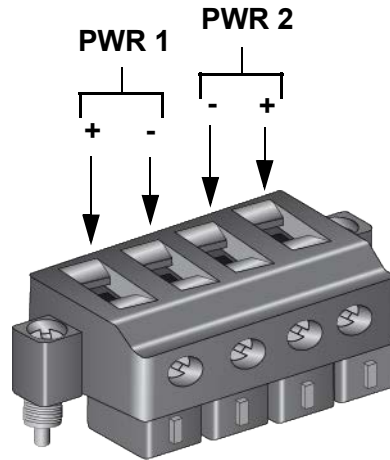

Figure 66. Loosening the Wire Retaining Screws on the POWER Plug
5. Use a #2 screwdriver to loosen the wire retaining screws of the PWR 1 and PWR 2 pins. If you are powering the switch with only one DC power supply, you may use either the PWR 1 or PWR 2 pins. Refer to Figure 66.